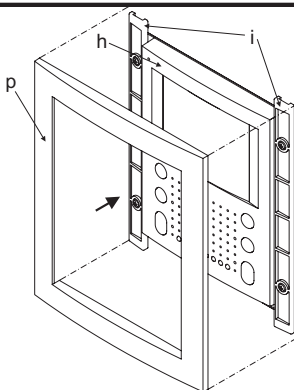

Fig.7
- *As shown on figure 7, align the frame "p" with the brackets "i" then push it toward the wall until the frame is hooked.*